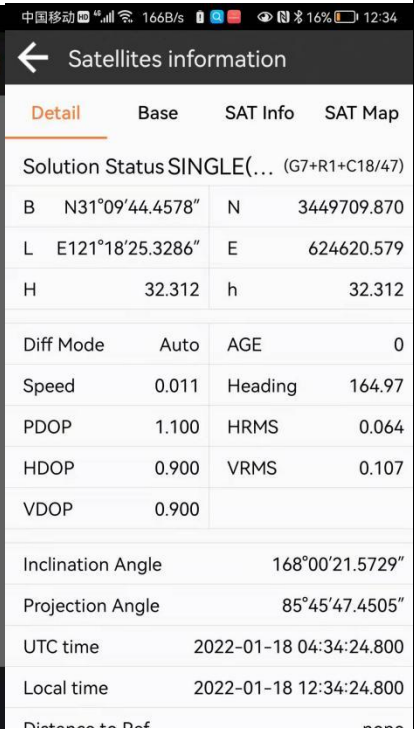
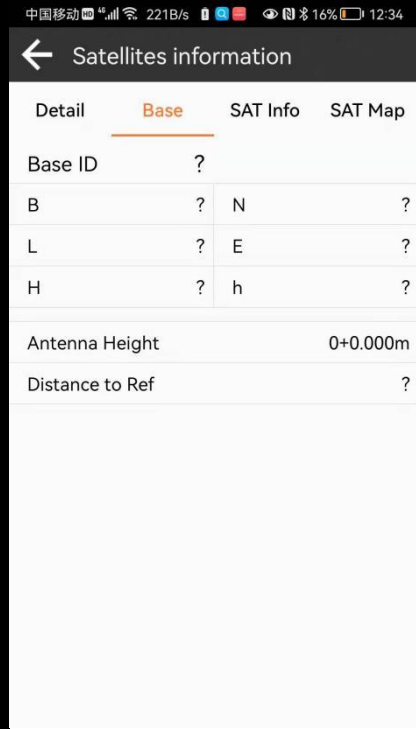

Figure 3.7-2
Figure 3.7-3
3. Click on the position of the title bar of the software to enter the positioning coordinates of the output of the equipment, as shown in Figure 3.7-2. You can switch to view the base station information, and the star chart information, as shown in FIG. 3.7-3, 3.7-4, 3.7-5. Since there are no antenna parameters of the transmission base station in the differential data, only the transmit-center coordinates of the base station transmission phase are transmitted. In order to obtain the